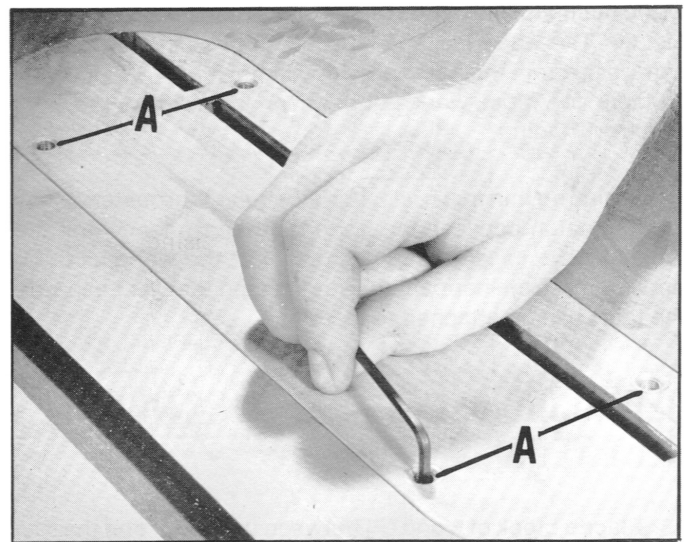

Fig. 27
The table insert should always be flush with the table top. To adjust the table insert, turn the adjusting screws (A) Fig. 27, in or out.